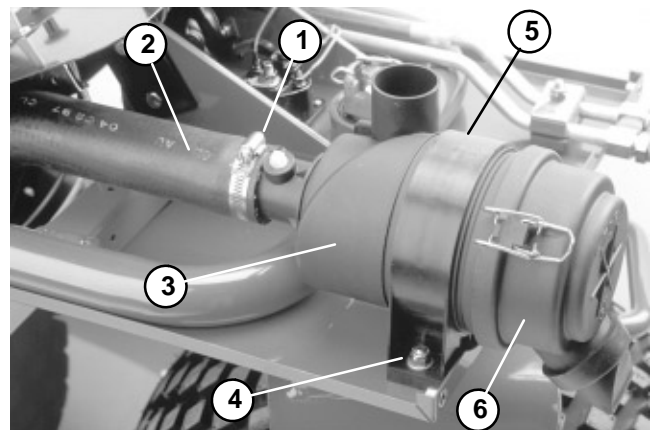

Figure 21
3. Loosen hose clamp. Remove air hose from the air cleaner body (Fig. 21).
4. Remove both lock nuts, flat washers, and cap screws securing the mounting band to the front shield (Fig. 21).
5. Unlatch and remove cover from filter body. Separate filter body from the mounting band. Make sure not to drop the filter element (Fig. 21).
1. Insert filter body through the mounting band. Install and latch cover to the filter body (Fig. 21).
2. Secure mounting band and air cleaner to the front shield with both cap screws, flat washers, and lock nuts (Fig. 21).
3. Secure air hose to the air cleaner with hose clamp (Fig. 21).